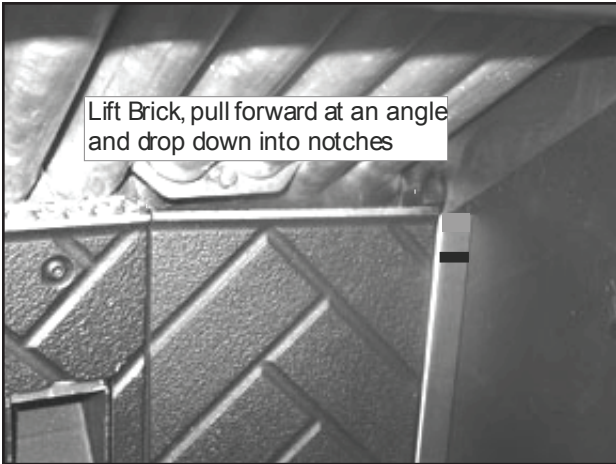

Figure 24.1
3. Pull the right edge of the brick forward and slide the brick into the notches both top and bottom of right bracket. **Figure 24.1.**